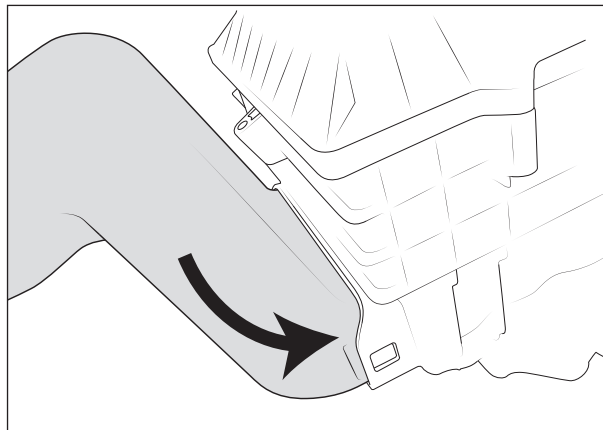

Figure 10
3. Slide intake portion of AEV snorkel into airbox body until fully seated together. It will lock into the airbox the same way as the factory inlet. RTV or silicone is not required at this joint, but can be added if desired for excessively dusty or wet conditions (fig. 10).